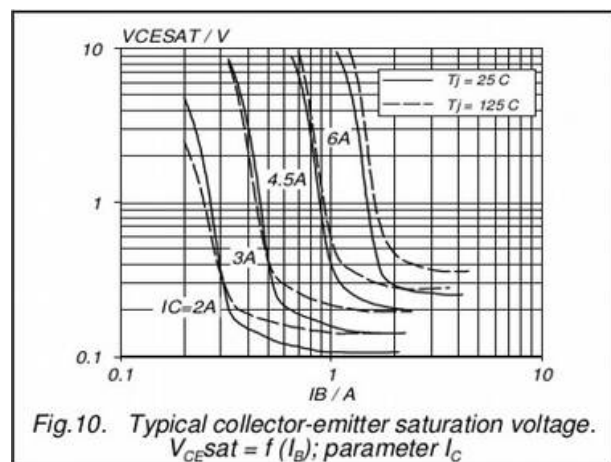

Fig.10. Typical collector-emitter saturation voltage.  $V_{CEsat} = f(I_B)$ ; parameter  $I_C$
3. Derate linearly to 150°C case at the rate of 1 W/°C or refer to Dissipation Derating Curve, Figure 10.